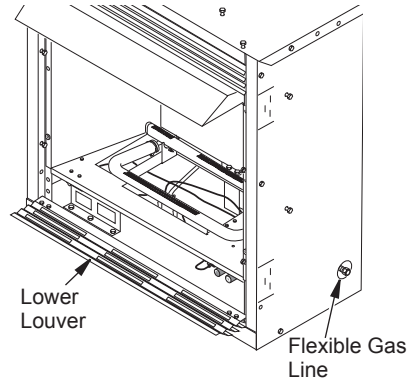

Figure 23 - Flexible Gas Line Location (Remote-Ready Unit Shown)
1. Open lower louver (see Figure 23).
NOTICE: Most building codes do not permit concealed gas connections. A flexible gas line is provided to allow accessibility from the fireplace (see Figure 23). The flexible gas supply line connection to the equipment shutoff valve should be accessible.